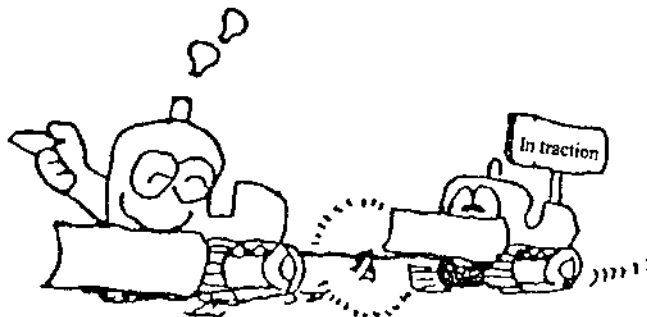

Fig. 6-1
6. If the machine breaks down and needs to be towed, it should be operated by operator to control the brake unit. Use a proper rope for towing, as shown in Fig. 6-1.